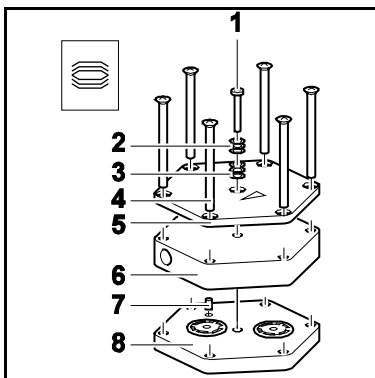

Fig. 10: Refitting pump head
1. On the pneumatic head connection (3), loosen the union nuts (2) by hand. Then slightly loosen the angle-fitting (1) in the pump head (4) by turning it anticlockwise, so that the connecting tube can be pulled out.
2. At both pump heads mark the position of top plate (fig. 10/5), head plate (fig. 10/6), intermediate plate (fig. 10/8) and adapter relatively to each other by a drawing line with a felt-tip pen. This helps to avoid incorrect assembly later.
6. Insert screw(s) (1) with disk springs (2, 3) in the center of the top plate (5). In doing so, make sure that the disk springs are arranged properly (see fig. 10).
7. Screw in the screw/screws (1) in the centre of the pump top plate (5) until it is flush with the top plate (they are flush with the top plate); then screw one final half turn to tighten (tightening torque: 25 Ncm).